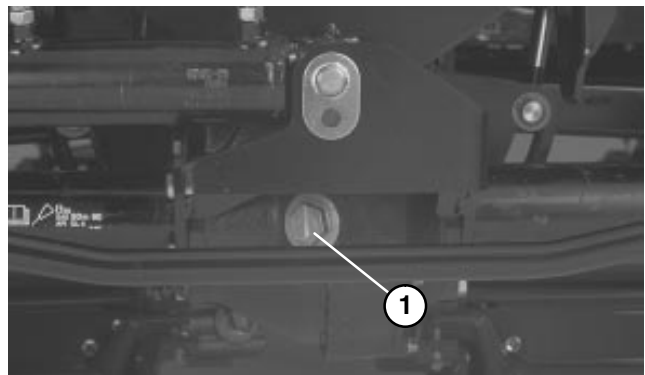

Figure 22
1. Check Plugs (2)
3. Remove plug in center of axle and check level. If level is low, add enough lubricant to bring the level up to the bottom of the hole (Fig. 22).